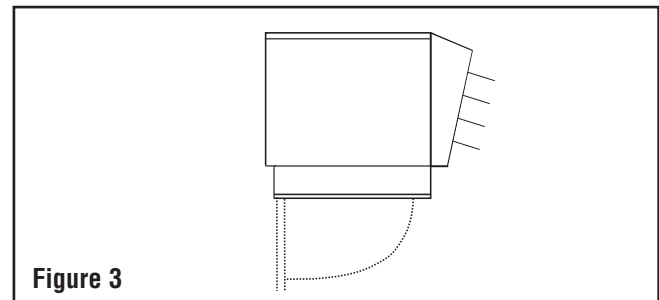

Figure 3
2. All wiring connections are made inside the control box at the bottom of the heater. To open control box, loosen screws holden the hinged cover at front (if cover is slotted) or remove screw(s) (if cover is unslotted) and open cover (Figure 3).